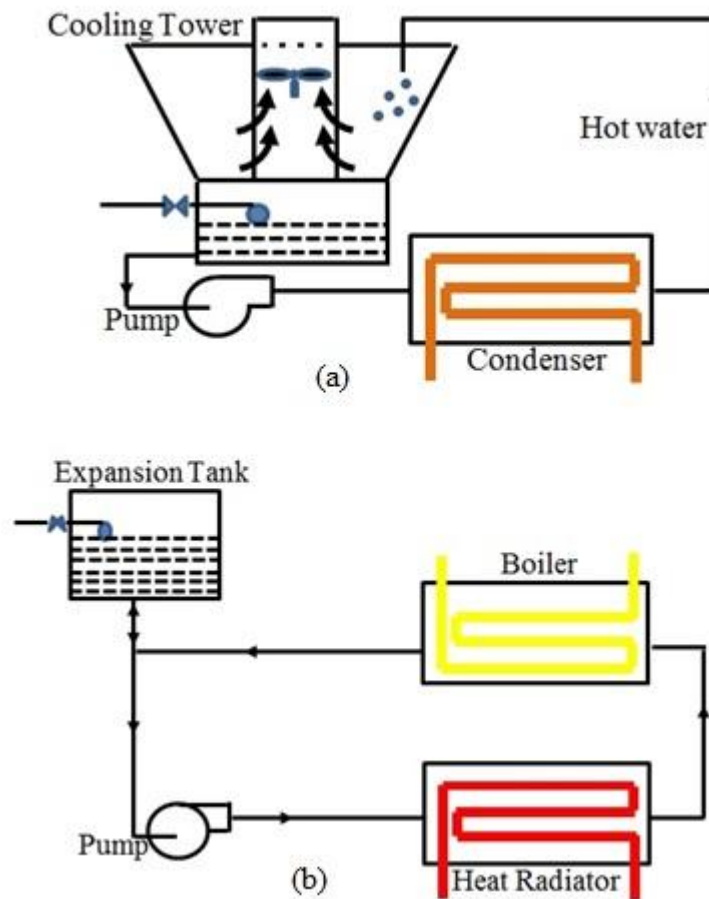

Figure 4-1 (a)Open type piping system, (b) closed type piping system
1. Open system ..... figure 4-1-a